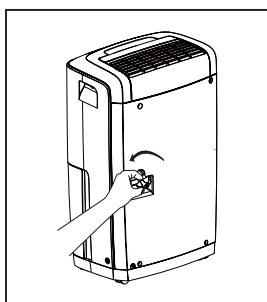

fig. 1
- Unscrew the drain cap on the back side of the unit. (fig.1)